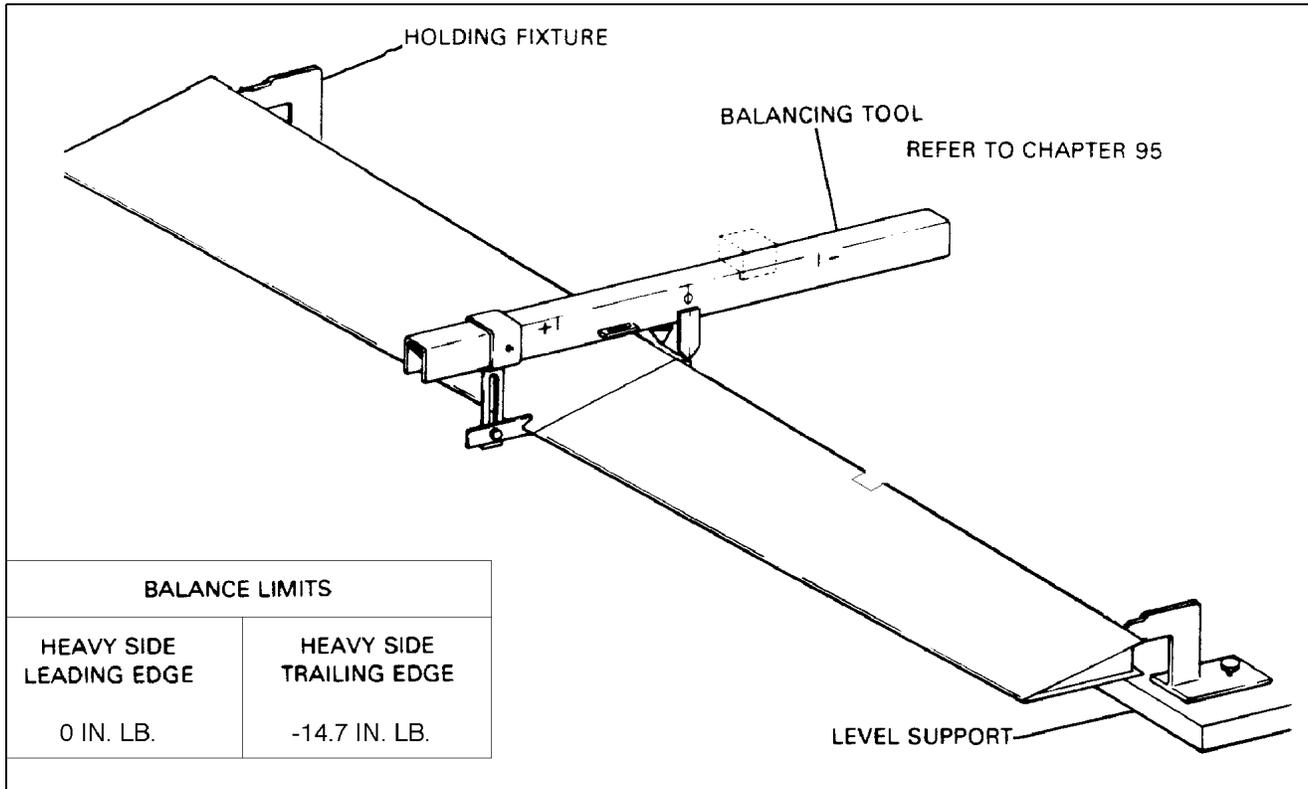

Figure 57-3. Aileron Balance Configuration
4. Balancing Aileron (Refer to Figure 57-3)
Position the aileron on the balancing fixture in a draft free area and in a manner which allows unrestricted movement of the aileron. Place the tool on the aileron, avoiding rivets, and keep the beam perpendicular to the hinge centerline. Read the scale when the bubble level has been centered by adjustment of the movable weight and determine the static balance. If the static balance is not within the limits specified in Figure 57-3, proceed as follows: